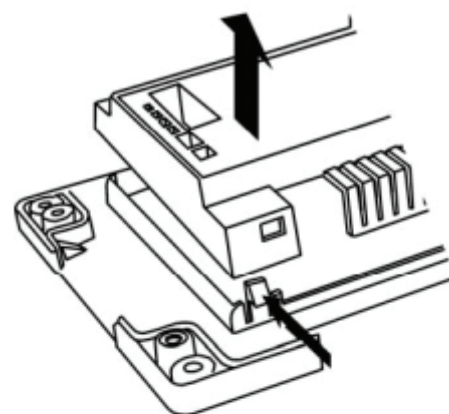

Fig 1
- Using a small screw driver, carefully push the clip inwards whilst lifting the PCB cover upwards (see Fig 1). When the PCB cover is removed, the PCB will be visible.